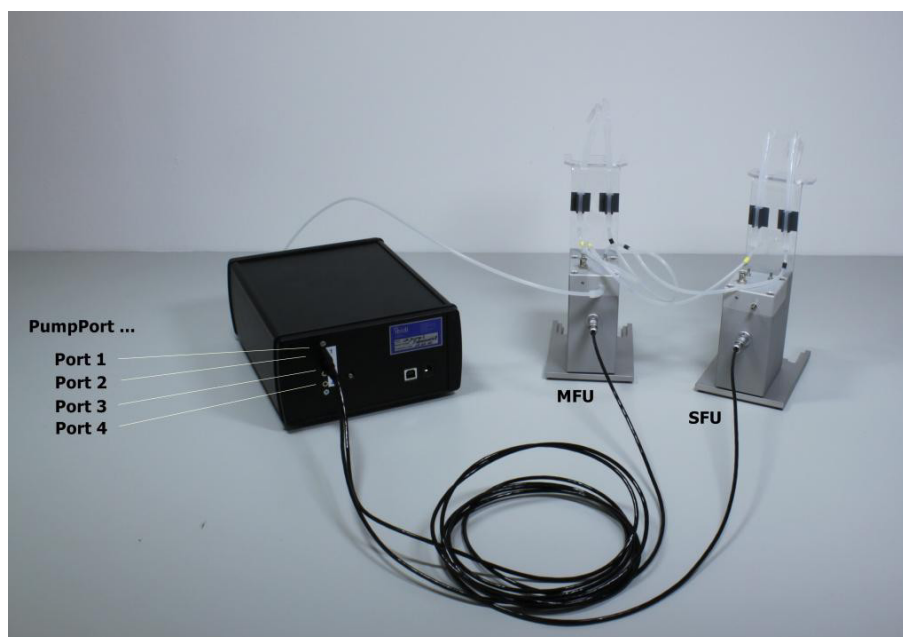

Figure 35 – Oscillatory flow setup with two Fluidic Units (one master and one slave).
4. Connect the pump and the two Fluidic Units with the electric cables. In this example, “Port 1” for the master Fluidic Unit and “Port 2” for the slave Unit are used (Figure 35).